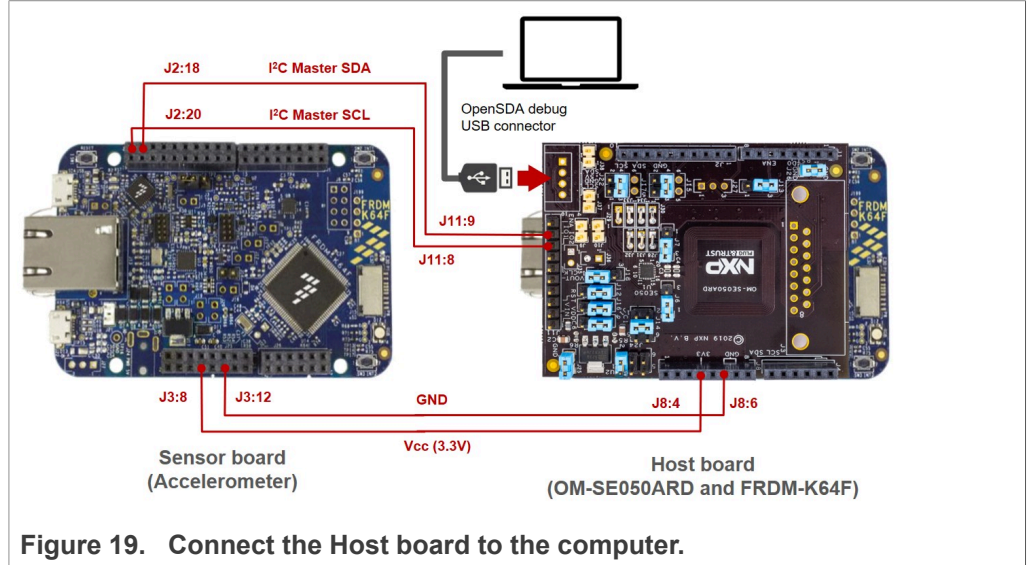

Figure 19. Connect the Host board to the computer.
- 1. Connect the Host board (OM-SE050ARD and FRDM-K64F) the computer through the OpenSDA debug USB port as shown in Figure 19.